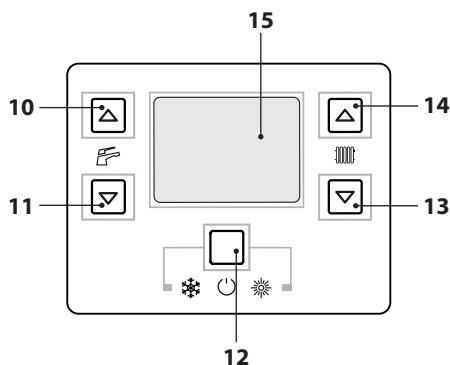
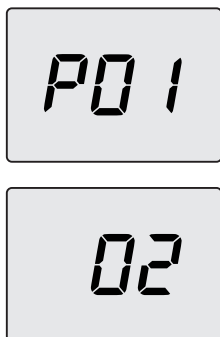

Figure 9.18
Figure 9.19
- Enter "programming mode" by pressing keys 12-13-14 (Figure 9.18) together for 10 seconds until the LCD display indicates the letters **P01** alternating with the value of the parameter, indicating entry in "parameter 01" (Figure 9.19).
- Press keys 12-13-14 together for 10 seconds (Figure 9.18) to exit "programming mode".
- By pressing key 12 (Figure 9.18) confirmation of the inserted value is obtained.
- Press key 14 to switch to parameter **P02** and display the relative value that was set:
- Press keys 10 or 11 to change the value and confirm the value of the parameter with key 12.
- Press key 14 to switch to parameter **P03** and display the relative value that was set: